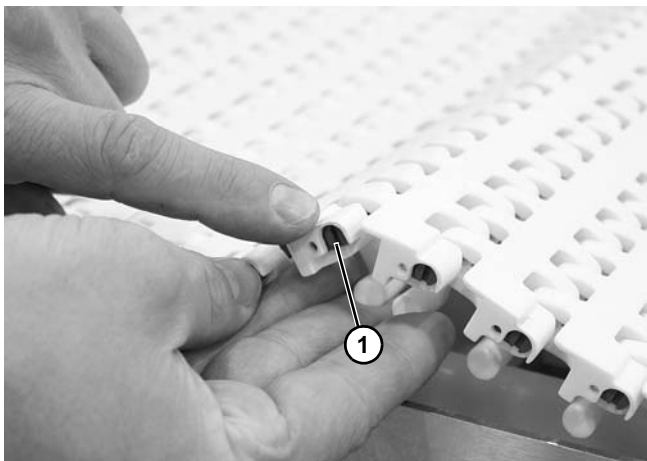

Figure 31
2. Lift up the belt near the tail end of the conveyor, or near a straight section. Locate the rod head with a slot (**Figure 31, item 1**).